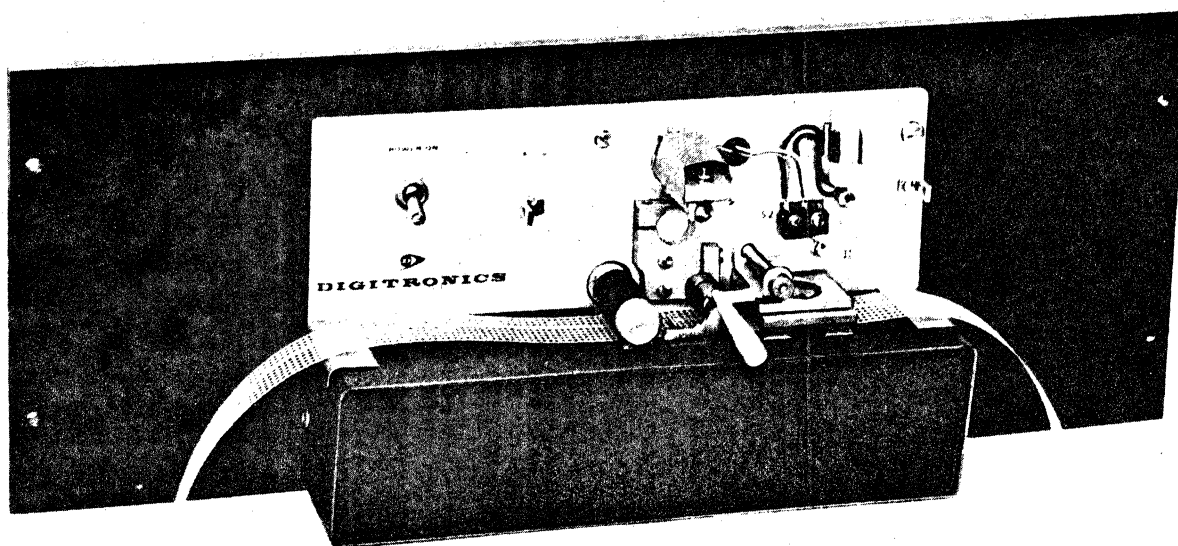

Figure 3-2. Tape Path (shown with upper cover removed)
- d. Thread tape through reader with channel 1 nearest panel. (See Figure 3-2.)